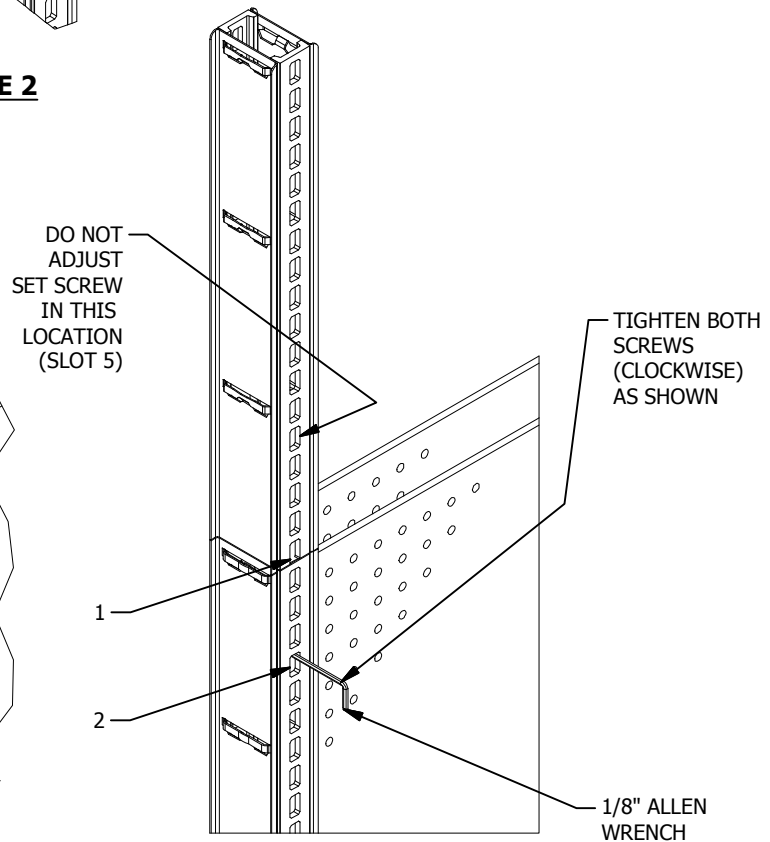

FIGURE 5
STEP 5: TIGHTEN BOTH LOWER SET SCREWS SHOWN AS 1 & 2 IN FIGURE 5 (**SEE WARNING NOTE 2**). DO NOT ADJUST THE UPPER EXTENSION SET SCREW ON EXTENSION UPRITES. REPLACE TOP CAP. (**FIGURE 5**)